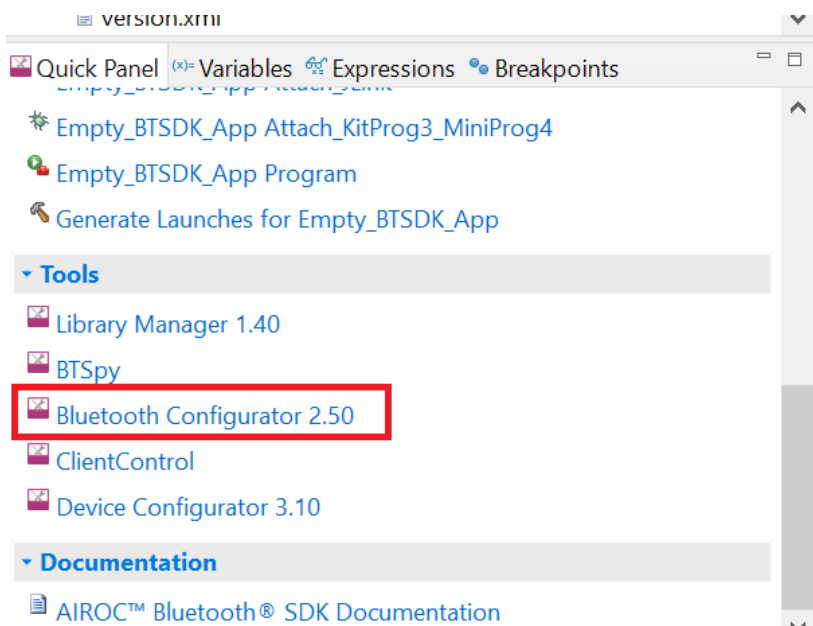
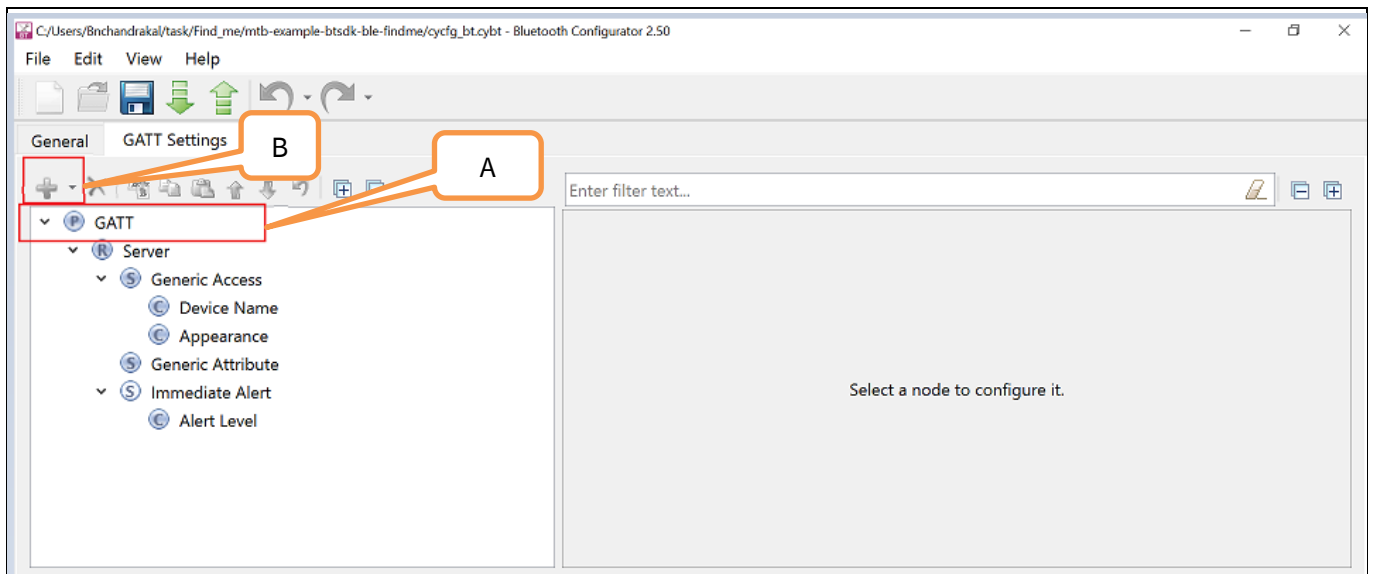
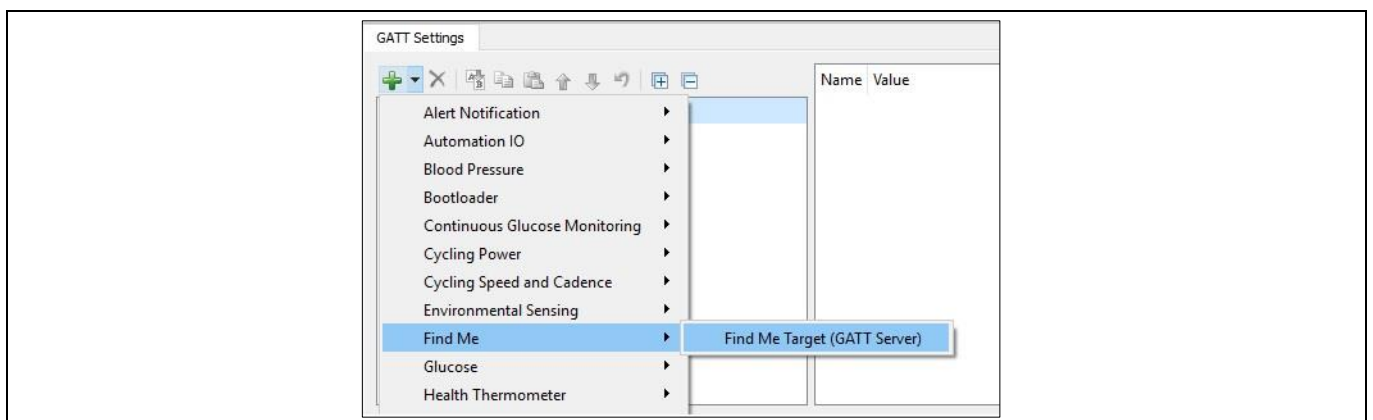

Figure 20 Quick Panel View - Bluetooth Configurator
Figure 21 Bluetooth® configurator
Figure 22 Adding Find Me Target profile
- **Bluetooth® Configurator:** The Bluetooth® peripheral has an additional configurator called the Bluetooth® Configurator that is used to create the Bluetooth® Low Energy GATT database. For the Find Me Profile application, we need to generate a GATT database corresponding to the Find Me Target role of the CYW20820 device. Before doing that we will move `cycfg_bt.cybt` and `app_bt_cfg.c` files from the `COMPONENT_btstack_v1` folder to the top-level folder of the project from IDE or from your PC file explorer. We are copying these files because CYW20820/CYW20819/CYW20835 devices support btstack v1. Once done, delete the `COMPONENT_btstack_v1` folder and `COMPONENT_btstack_v3` folder either from IDE or from your PC file explorer. Now to configure the GATT database, launch the Bluetooth® Configurator by double-clicking `cycfg_bt.cybt` file or by selecting **Bluetooth Configurator** in the **Quick Panel**, as shown in **Figure 20**. The default view of the Bluetooth® Configurator is shown in **Figure 21**.
To add the Find Me Target profile, click on **GATT** profile (A in Figure 21), and then click the **+** icon (B in Figure 21). Select the **Find Me Target (GATT Server)** profile from the drop-down menu, as shown in Figure 22), and then click the **+** icon (B). Select the **Find Me Target (GATT Server)** profile from the drop-down menu, as shown in Figure 22.